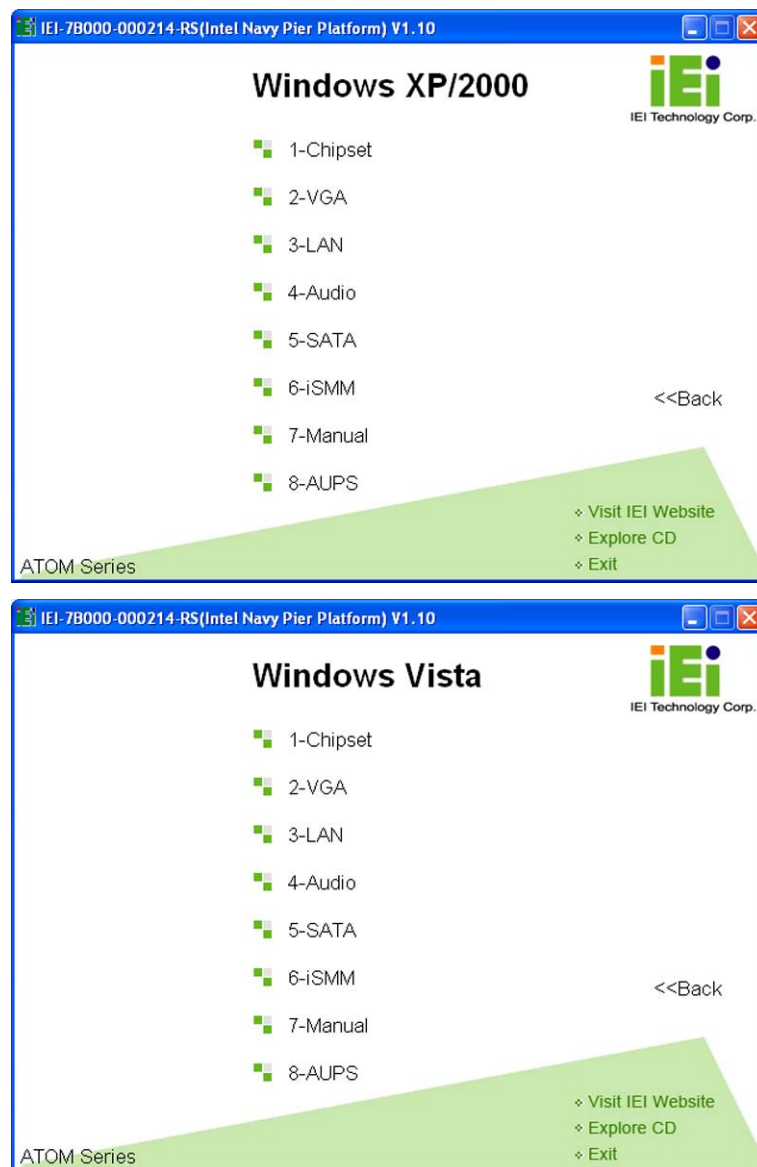

Figure 4-18: Available Drivers
Step 5: A new screen with a list of available drivers appears (**Figure 4-18**).